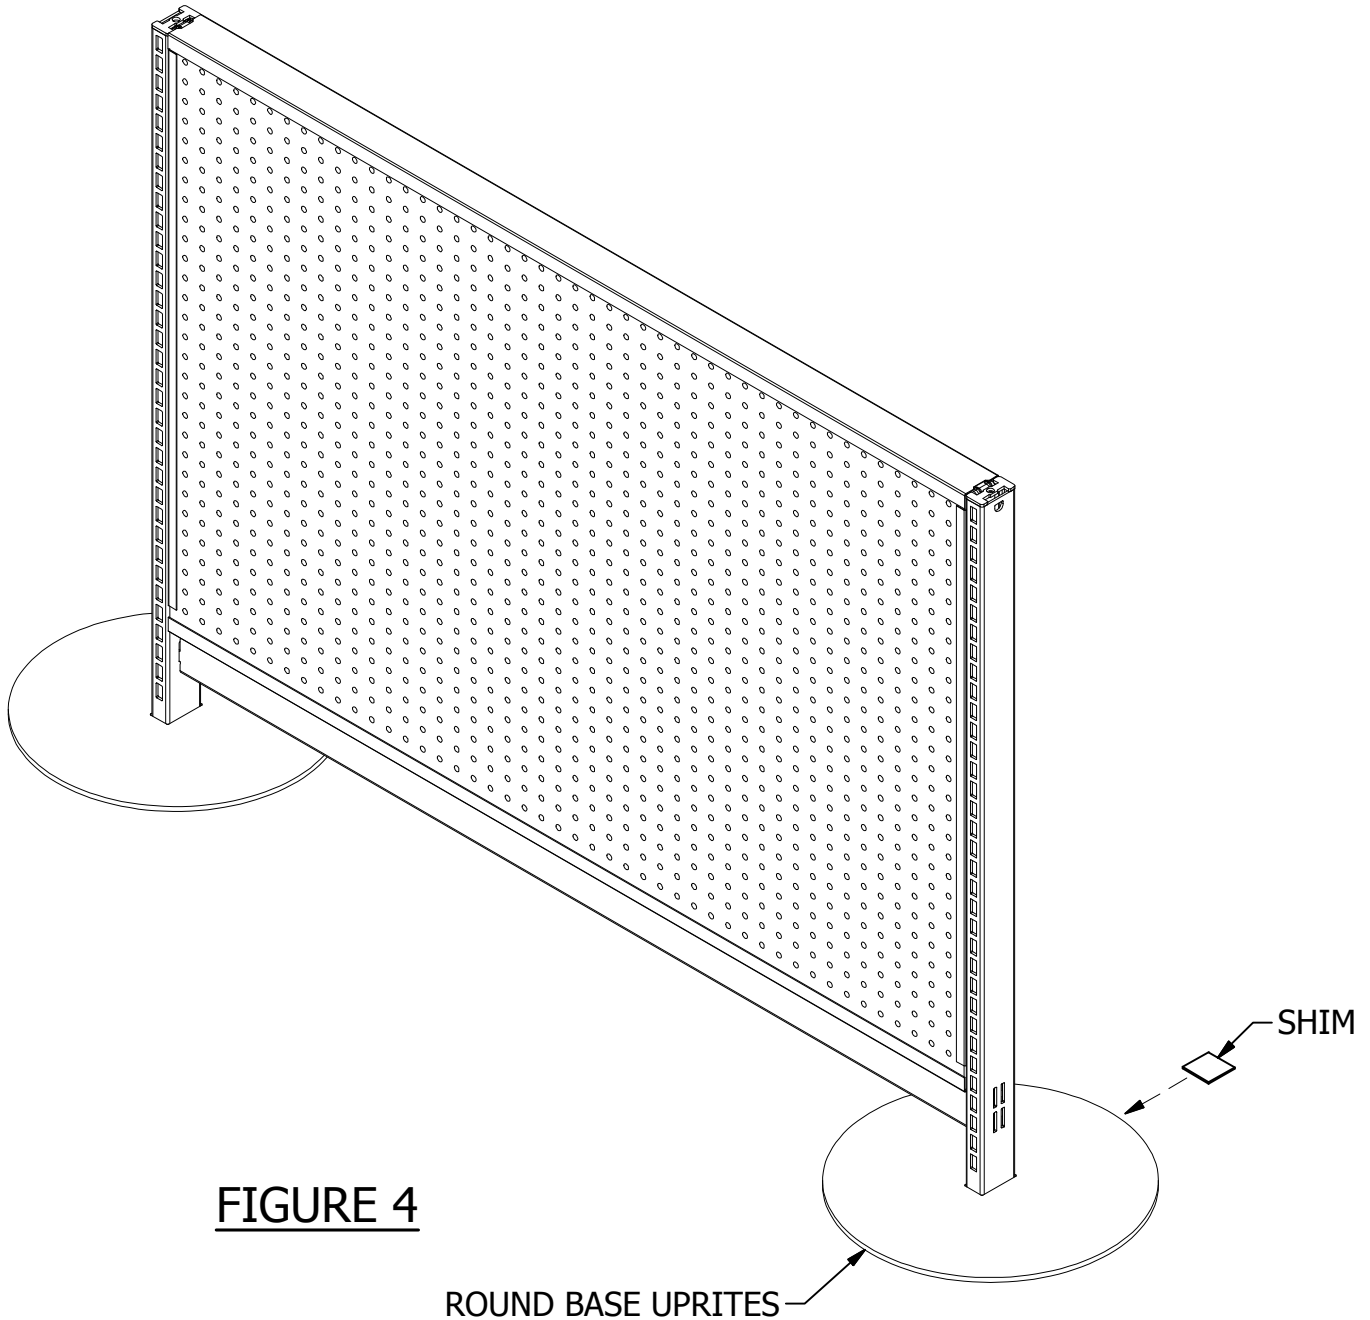

FIGURE 4
STEP 3: Shims may be used to stabilize round base uprites on uneven floors. Shim thickness will vary with floor condition. Place shim(s) under foot pad(s) of round bases where needed. (See Figure 4)